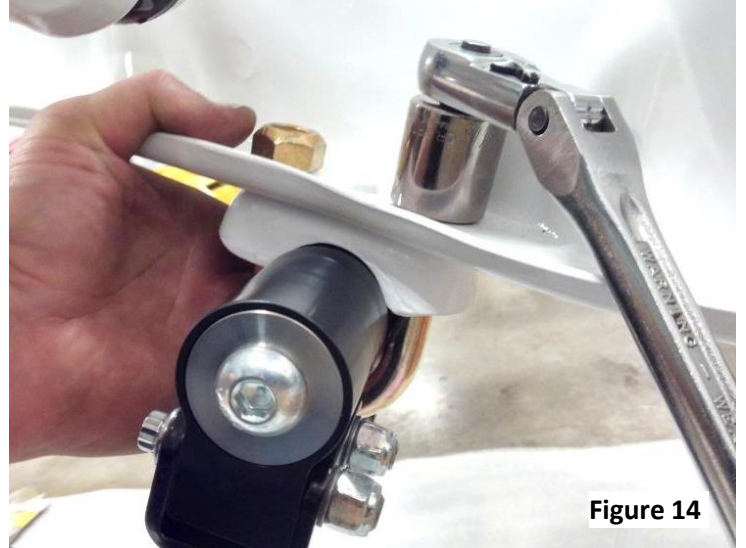

Figure 14
11. Install the QA1 lower control arm with the supplied U-bolts. The alignment dowel on the cross member must be seated into the cross shaft. Torque the nuts evenly to 70 lb. ft. See **Figure 14**.